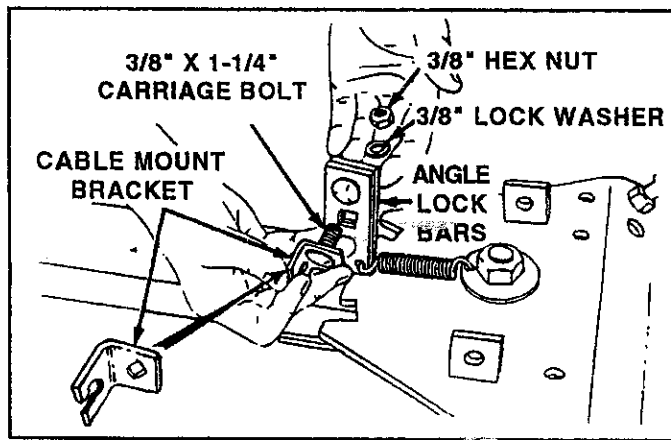
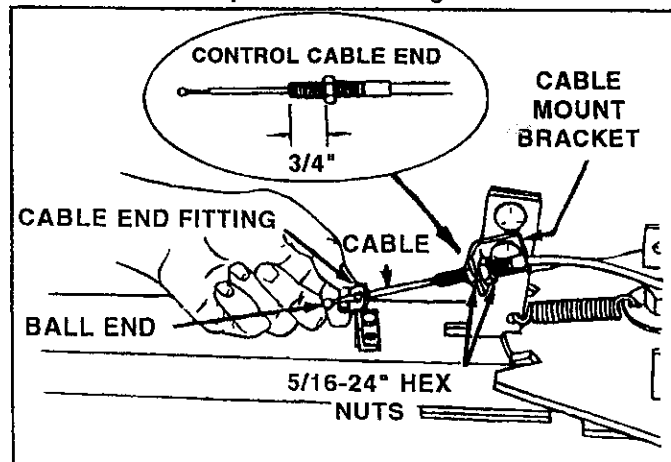

FIGURE 6
FIGURE 7
5. Assemble 3/8" x 1-1/4" carriage bolt through square hole in cable mount bracket and through square hole in lock bars. See figures 6 and 7. Hold cable mount bracket in position as shown in figure 7 and secure with 3/8" lock washer and 3/8" hex lock nut.
6. Assemble one 5/16-24" hex jam nut onto threaded end of control cable approximately 3/4" from end. Assemble threaded cable end through round hole in cable mount bracket and secure with another 5/16-24" hex jam nut. See figure 7.
7. Assemble ball end of cable through round hole in cable end fitting and into slot of fitting. See figures 7 and 8.